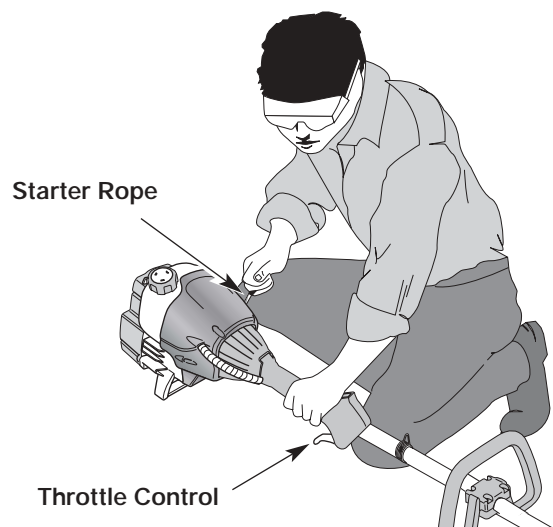

Fig. 8
**WARNING:** Avoid accidental starting. Remain in the starting position when pulling the starter rope (Fig. 8). The operator and unit must be in a stable position while starting to avoid serious personal injury. Make sure that any Add-On item is installed correctly and secure before starting the unit.
5. With the unit in the starting position (Fig. 8), **DO NOT SQUEEZE THE THROTTLE CONTROL**. Pull the starter rope 5 times briskly, with the EZ-Start™ lever pushed to the left. If the engine starts to run before the fifth pull, proceed to step 6. If the engine does not start, go back to step 3.
1. Release your hand from the throttle control (Fig. 8). Allow the engine to cool down by idling.